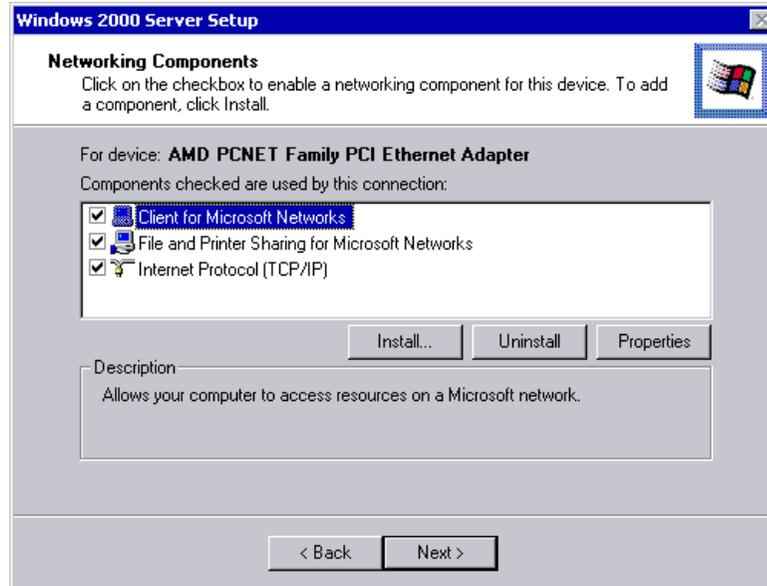

Figure 60. Selecting custom settings
– Custom settings. We recommend this, shown in Figure 60.